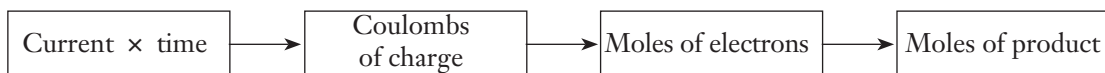

Figure 2. Flow Chart for Electrolysis Calculations.
The change in mass at each electrode depends on the reaction time and the current. The coulomb (C) is the fundamental unit of electrical charge, and the charge on the electron is equal to 1.602×10^{-19} C. Current is measured in amperes, where one ampere (A) is equal to the flow of one coulomb of charge per second ($1 \text{ A} = 1 \text{ C/sec}$). The flow chart in Figure 2 shows the steps involved in calculating the amount of a substance produced in electrolysis.